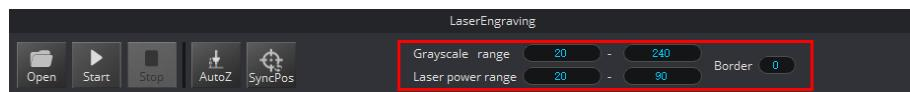

Figure 5.84 Set the grayscale range, laser power range, and border
**Step 3** Set the **Grayscale range**, **Laser power range**, and **Border**, as shown in Figure 5.84. For details, see Table 5.11.